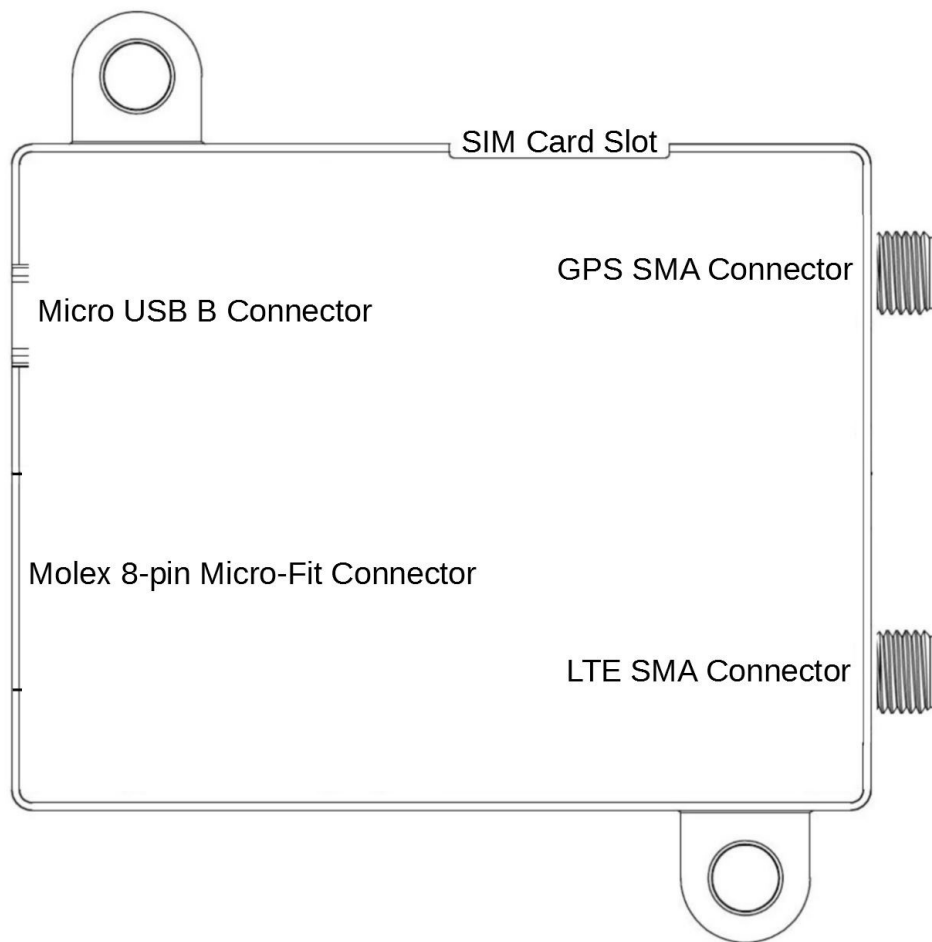

Figure 4: The location of the CellBox connections as seen from above
- 3) For GPS use, connect an SMA compatible antenna to the GPS SMA connector. Note: For GPS use, the set up does not require the LTE antenna(s). The connector is shown in Figure 4.